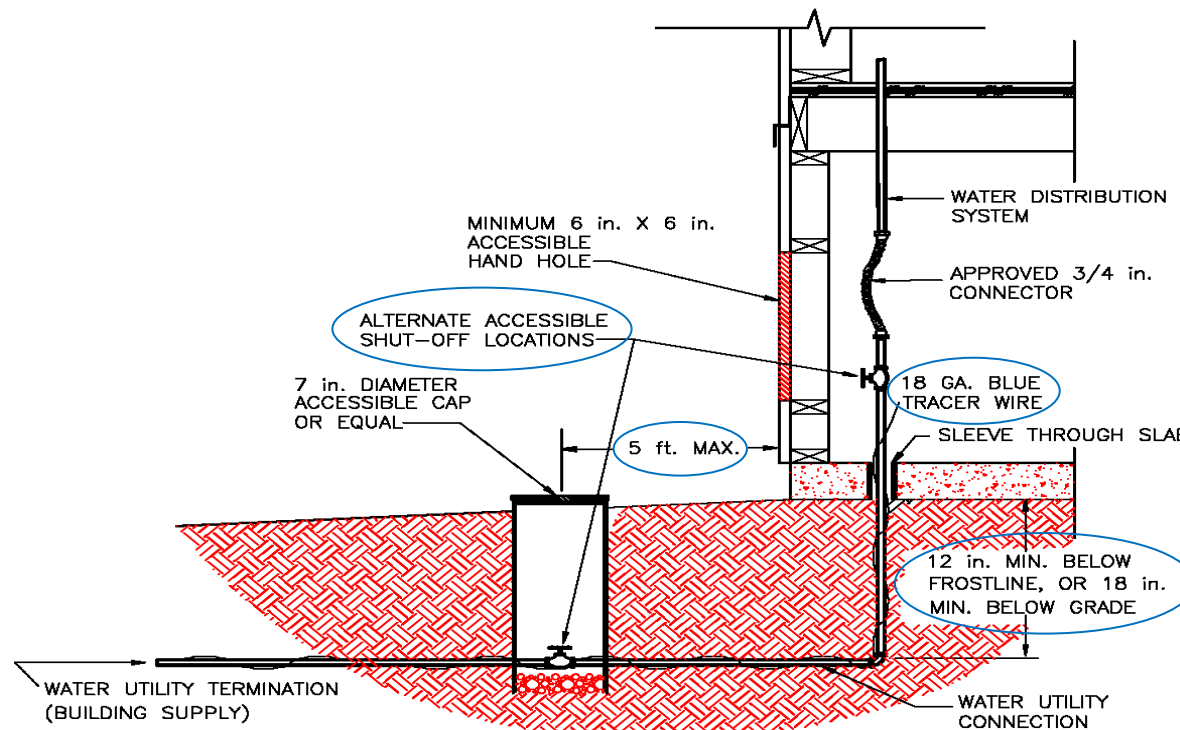

Figure 7-2.1 Typical Main Water Supply Connection
- All water supply piping outside the manufactured dwellings under-floor area must be installed underground. See Figure 7-2.1
- Piping must be buried a minimum of 18 inches below grade and must also be at least 12 inches below the frost line. See Table 3-2.1 for frost penetration depths. See Figure 7-2.1
- Non-metallic piping must have a blue 18 gage tracer buried in the trench the entire length of the pipe. The end of the tracer must be left above finished grade. See Figure 7-2.1